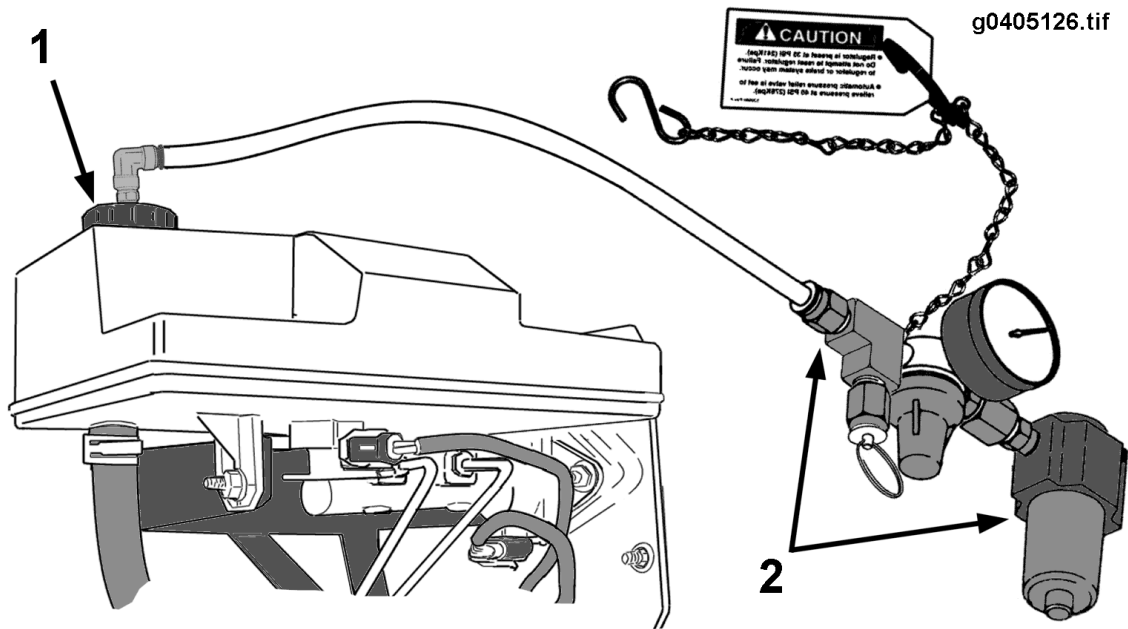

Figure 26 Typical Air-Over-Fluid Bleeder Setup
- If an air bleeder system is used, **the fluid level in the MC reservoir must be monitored** to ensure that the level never drops below the MIN mark during the bleed procedure. A typical air-over-fluid bleeder setup using service tools ZTSE4757-1 and ZTSE4678 is shown in FIGURE 26.